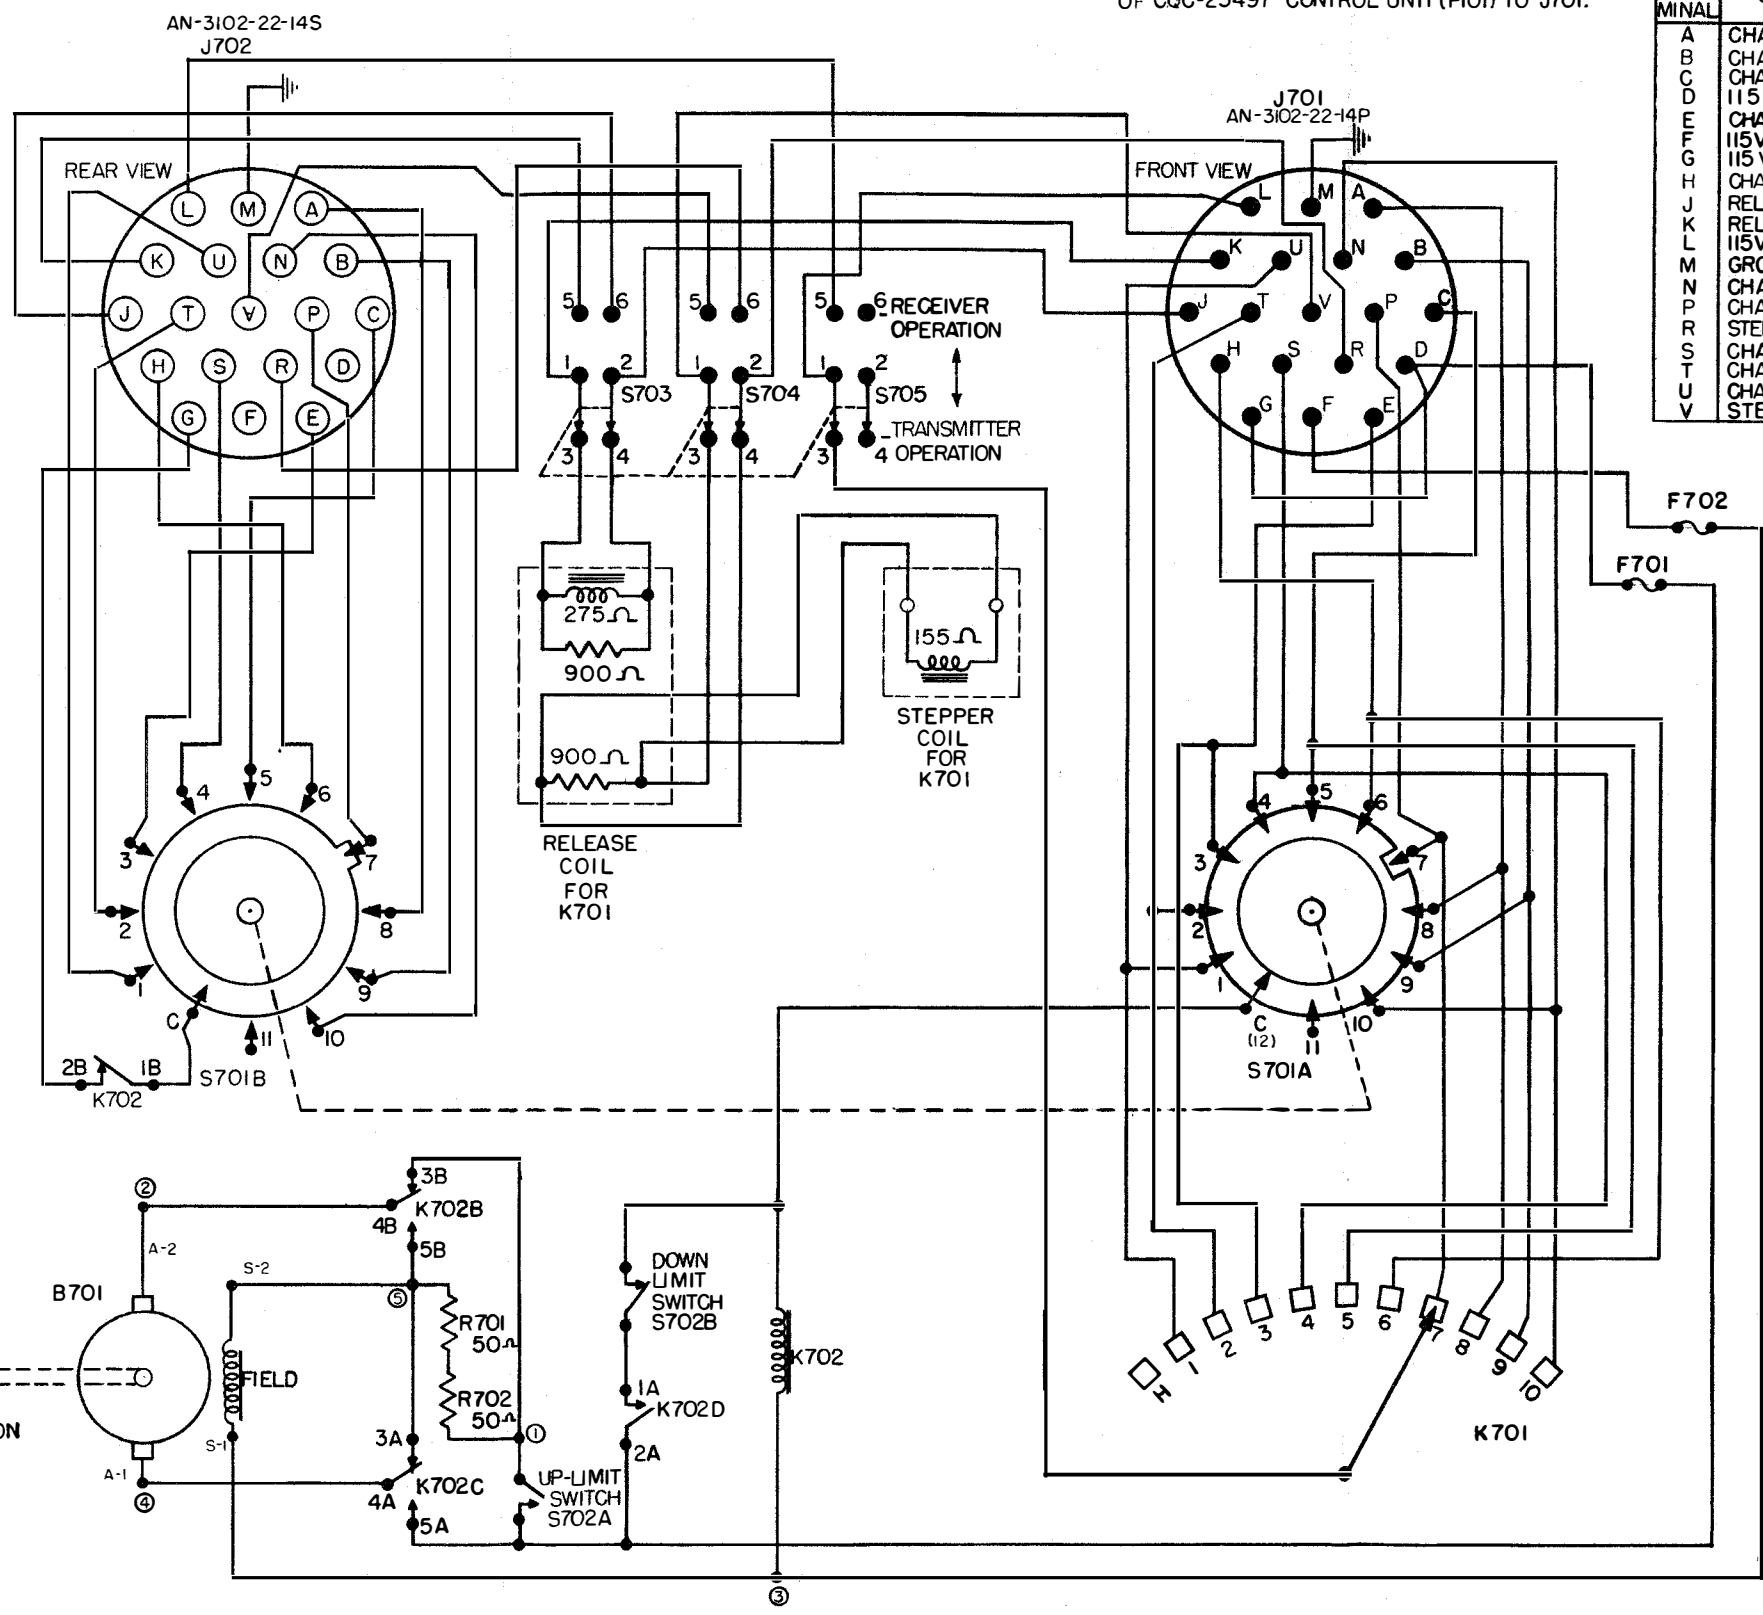

Figure 5-37. Antenna Coupler CU-255/UR, Schematic Diagram
- Step 3. Remove retaining ring 0740 and carefully pull reflectometer from its case, as shown in figure 5-37.
- Step 5. Reverse the meter leads. If the initial reading was between 200-300 ohms, the meter should now indicate 20000-30000 ohms. If the first measurement gave the higher indication, the reading should now be the lower. A ratio between the two readings of 95 to 1 or more will usually indicate that the reflectometer crystal CR701 is satisfactory. See schematic, figures 5-37 and 5-38.